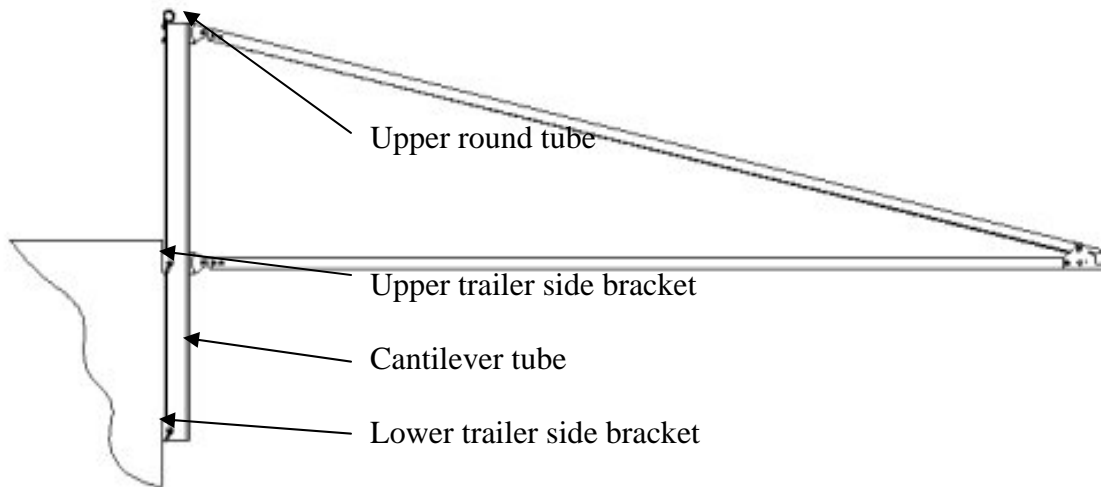

Figure 1 - Typical cantilever frame assembly as mounted to trailer
3. Review your approval/installation drawing for details of the trailer side mounting brackets. Fig. 1. Use silicone around all mounting holes drilled in trailer to prevent leakage.